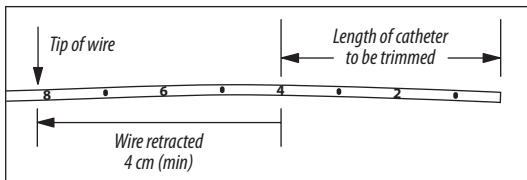

Figure 1
- Retract placement wire 1-1/2 inches minimum (4 cm) behind where catheter is to be cut. The placement wire is to be withdrawn through septum (refer to Figure 1).